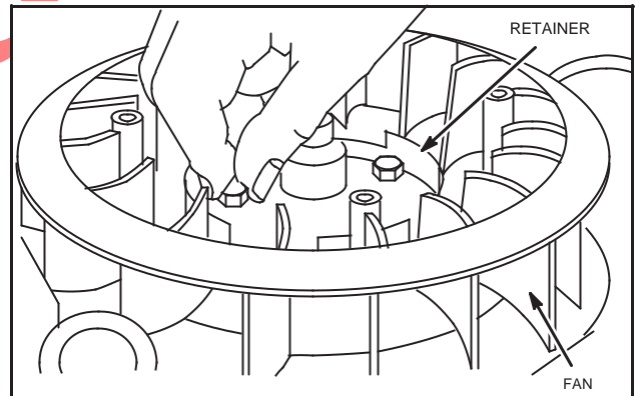

Fig. 12 – Install Fan And Retainer
3. Assemble fan and retainer to flywheel, Fig. 12.